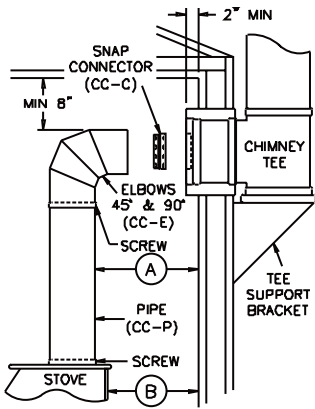

Figure 3
2. Install support box (**Figures 1 & 2**) or wall thimble (**Figures 3 & 4**) according to the installation instructions in your Dura-Plus or Dura-Chimney Kit. Note the suggestion regarding wall thimble installation under Step #4 — Through the Wall installations.
4. Vertical Installations — (**Figures 1 & 2**) — Join the pipe, adj. or rigid; insert onto connector, then lower to stove collar (Figure 1). For **Figure 2**, installations, install tee to stove collar by drilling at least 3, 1/8" holes and screw fastening the tee to the collar. Join the pipe lengths, insert into connector (CC-C), then lower to tee (CC-R). Through-The-Wall Installations — (**Figure 3 & 4**) — use the adj. lengths of pipe (CC-PEA) when doing a through-the-wall installation, it is readily adjustable to the height of the chimney thimble. Push the connector (CC-C) into the thimble, snap elbow or pipe onto connector,